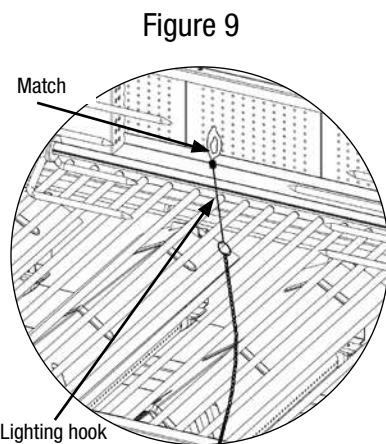

Figure 9
8. If igniter does not light burner, use a lit match secured with the lighting rod (included with grill) to light burner. Position the lit match near side of the burner (Figure 9).